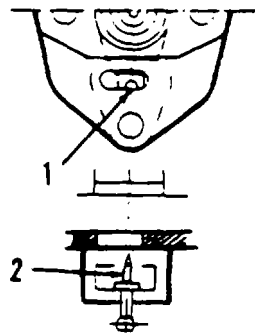

Figure 5-3. Fuel Injector Pump Alignment.
(1) Insert bottom flat tappet (10) down into engine block, closed end first.
(2) Adjust speed control lever knob until governor yoke (11) is centered in engine block opening.
(3) Refer to Figure 5-3. The access hole on fuel injection pump has an access hole pointer match mark (1). Make sure the pointer (2) of the control lever lines up with the match mark.